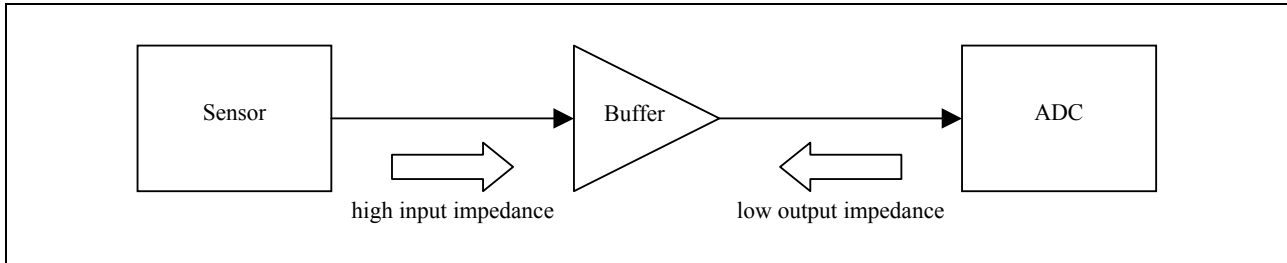

Figure 6 Signal Isolation
- A low-impedance buffer should be inserted when converting a high-speed analog signal as shown in Figure 6. The buffer provides a high-impedance for the sensor and a low-impedance drive for the ADC.